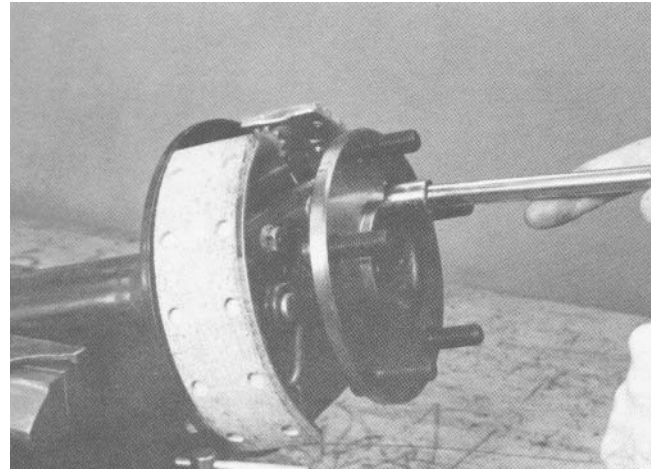

Figure 7
3. Align the holes in the axle shaft flange with the backing plate/bearing retainer nuts. Remove and discard the nuts, washers, and bearing retaining bolts (Fig. 7).